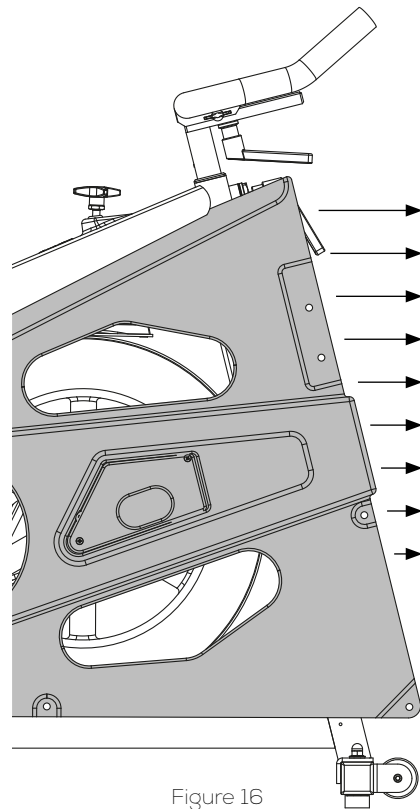

Figure 16
- 5) Slide the side cover free from the top cover. Do always this in the direction of the steer. See figure 16.
- 2) Remove the side cover by sliding the side cover in the direction of the steer. See figure 16